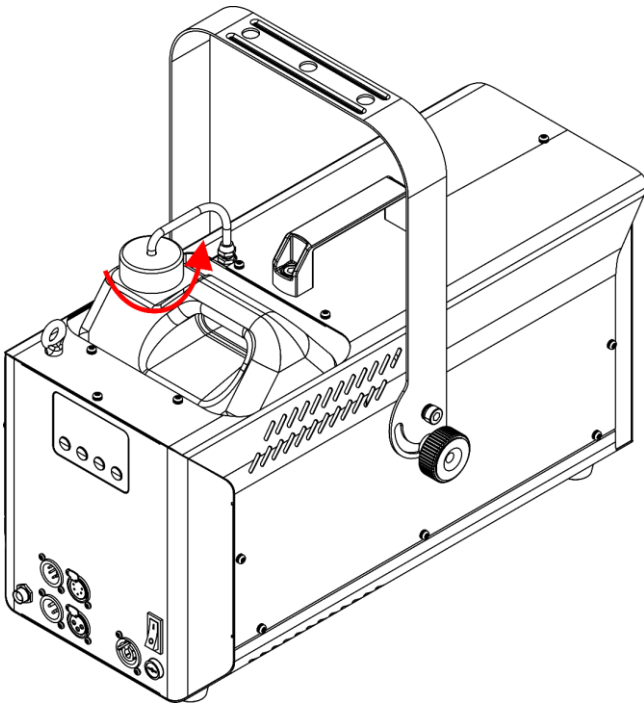

Fig. 08
- 02) Unscrew the lid on the fluid tank, as shown in Fig. 08.